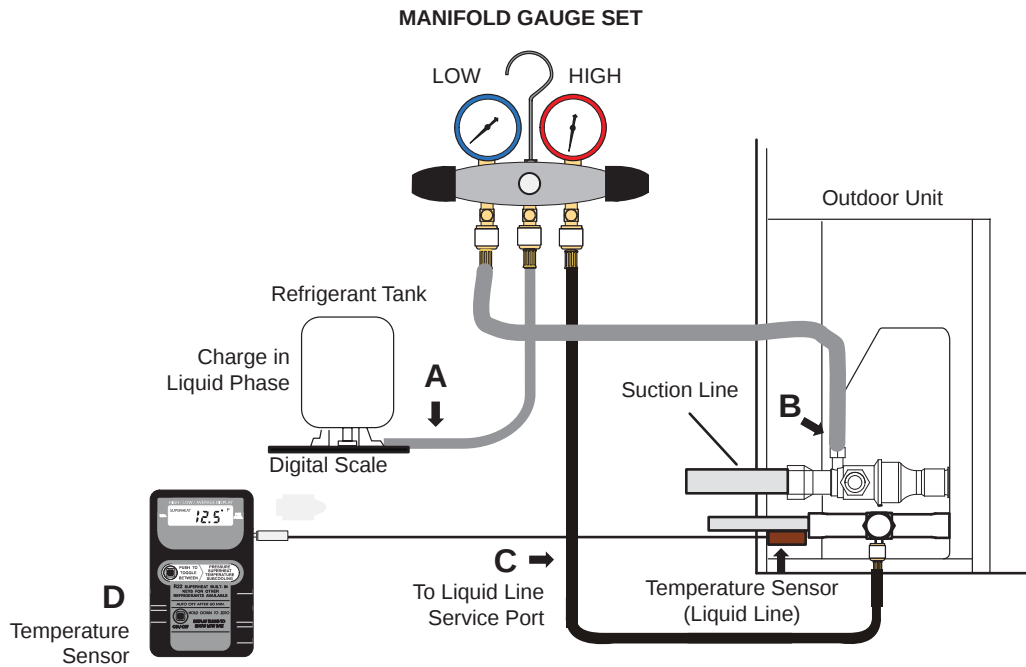

Figure 48. Gauge Set Connections
- 1 - Connect a gauge set for testing and charging as illustrated in **Figure 48**.